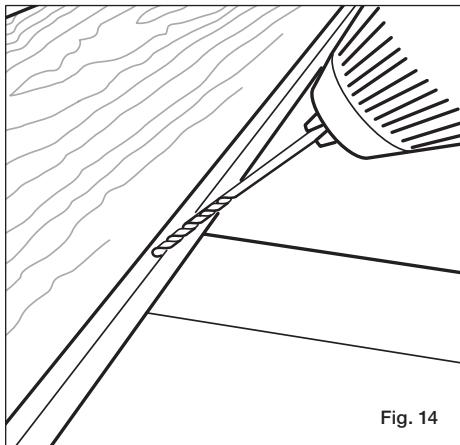
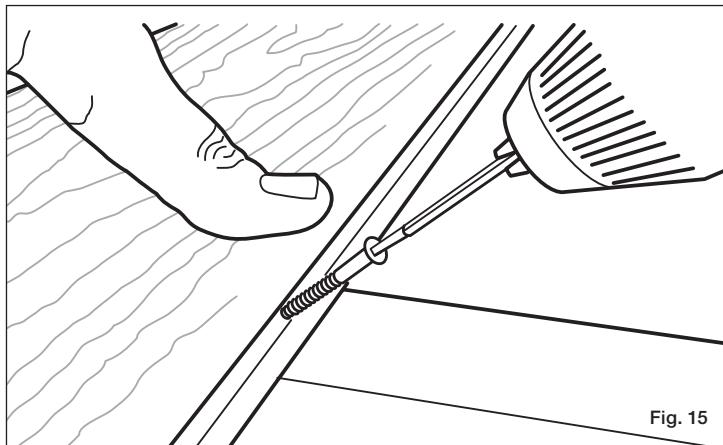

Fig. 14
Fig. 15
Step 5 To keep the interior boards from moving over time, the boards must be pinned at the center of their length using a #8, 2" stainless steel screw. This holds the deck board in place at the center of each board and allows the decking to expand/contract at the ends. Pre-drill in the groove of the deck board with an 1/8" drill bit (Fig. 14). Drive screw into the groove so it's flush with the bottom of the groove (Fig. 15). This will allow you to properly fit a Stowaway hidden fastener into the groove.